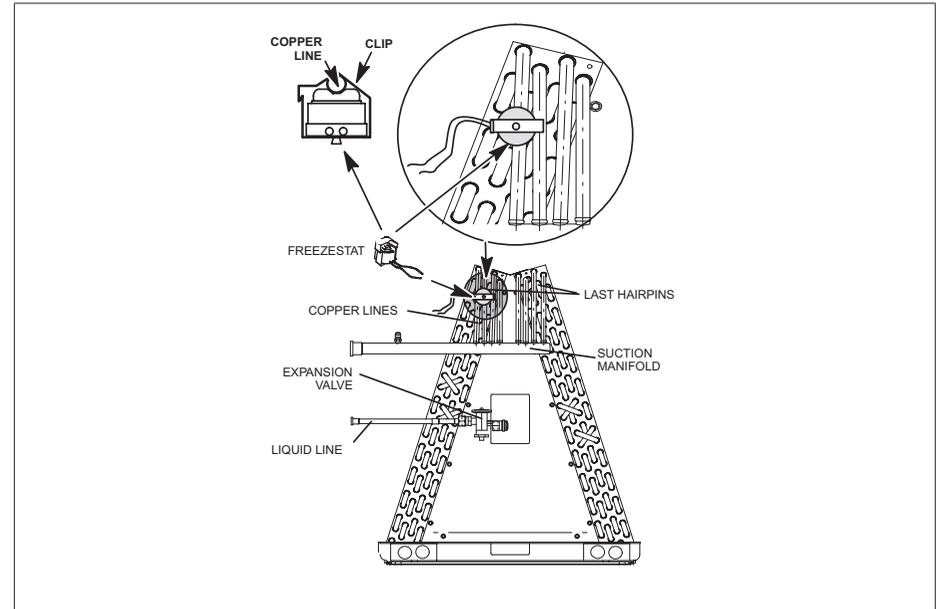

Figure 6. Typical Freezestat Installation - Indoor Coil
1. A freezestat, sized per “Table 7. Available Freezestats” and ordered separately, can be installed. Install the freezestat on one of the copper lines between the last hairpins and the suction manifold (see “Figure 6. Typical Freezestat Installation - Indoor Coil”) of the indoor coil.